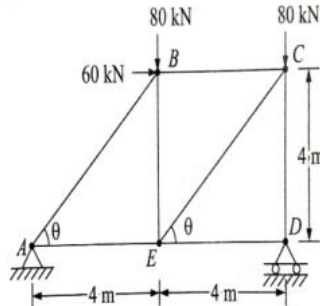

Figure 4.
5. Determine the forces in all the members of the truss shown in figure 4. Draw a neat sketch of truss showing the member forces. [14M]